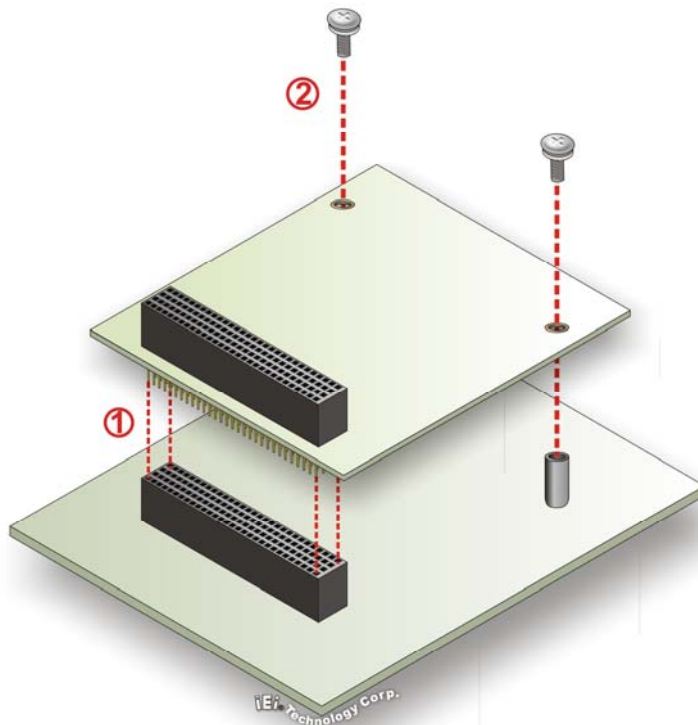

Figure 4-13: PCI-104 Expansion Card Installation
- Step 3:** **Secure the PCI-104 expansion card.** Secure the PCI-104 expansion card with two retention screws (**Figure 4-13**).